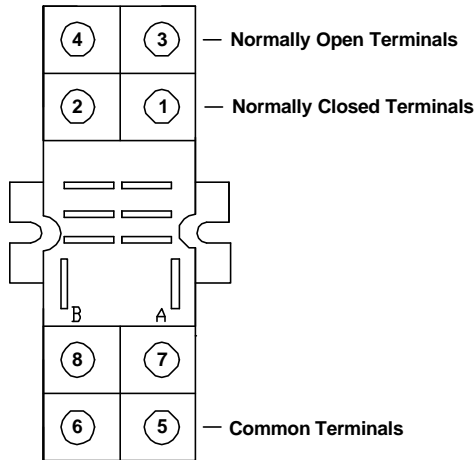

Figure 7.
**Alarm-to-Relay Connection:** The IR-SNIF-1,2,3 monitor alarm relay sockets have two sets of NO/NC dry contacts. Refer to figure 7 for a diagram of the relay socket.